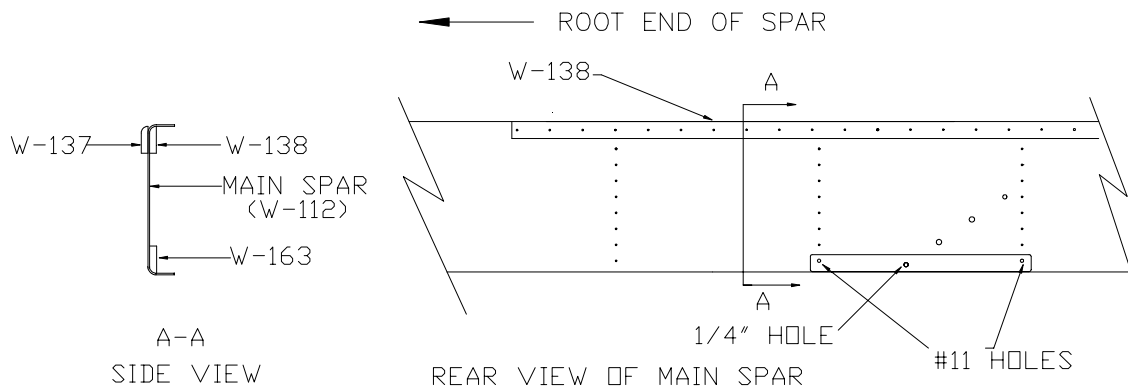

Figure 8.3.5
- 14) Clamp a 13” Spar Cap (W-163) to the Main Spar lower web so it is centered between the #5 and #6 rib rivet holes. Ensure the radius on the Spar Cap nests into the spar flange radius. Figure 8.3.5.
- 15) Using the existing rib rivet holes in the spar as a guide, drill through each end of the Spar Cap with a #30 drill, then enlarge to #11. Drill through the bottom Strut Fitting attach hole using a 1/4” drill. Figure 8.3.5.